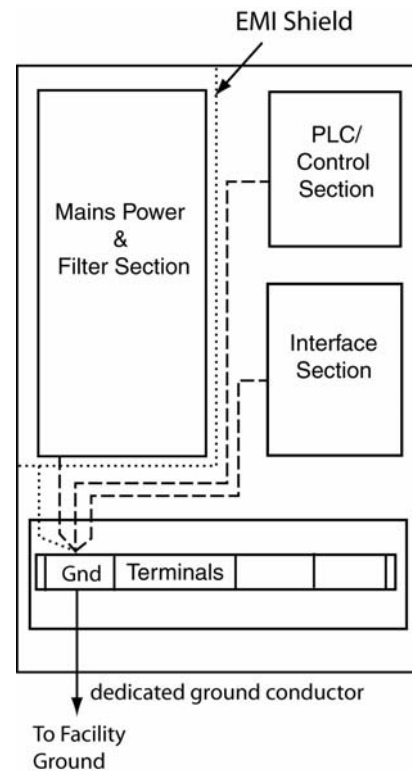

Figure 10 Recommended Panel Layout
- Electrical panel must have a dedicated ground conductor as per relevant electrical codes. See Figure 10.